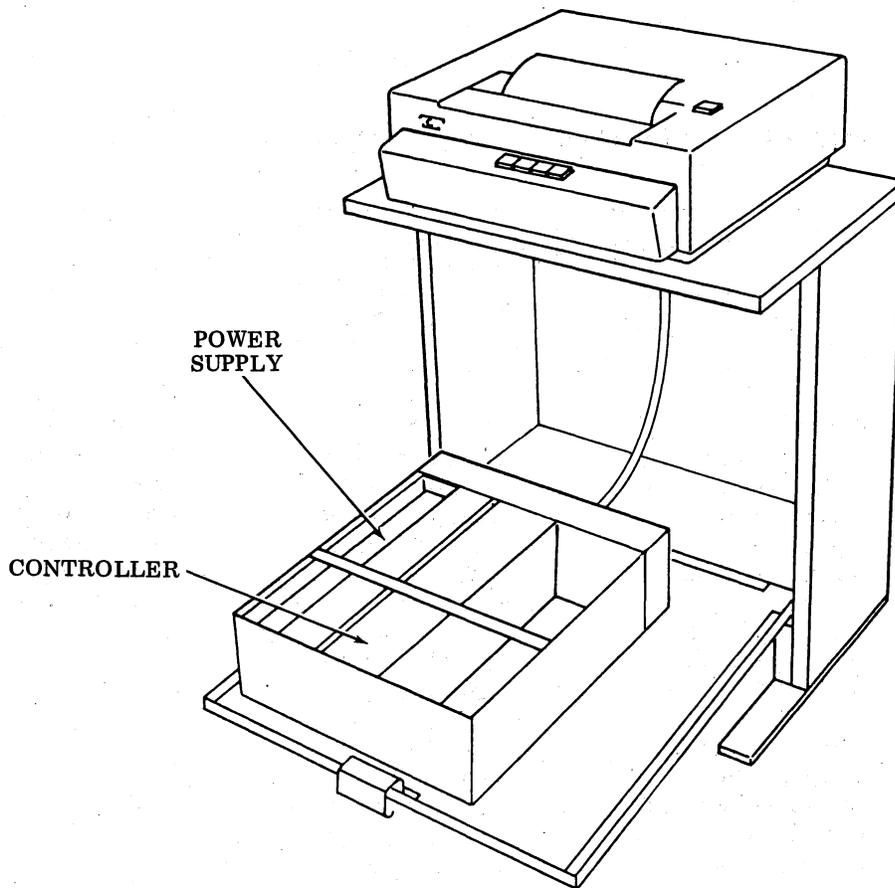

Figure 18 - Controller and Power Supply Position in RO Printer
2.46 The ROP controller contains the circuit cards which control the printer and provide an interface to the data set. There is provision for an optional 1000-character buffer. The controller module is mounted with the power supply module in the pedestal of the printer as shown in Figure 18.